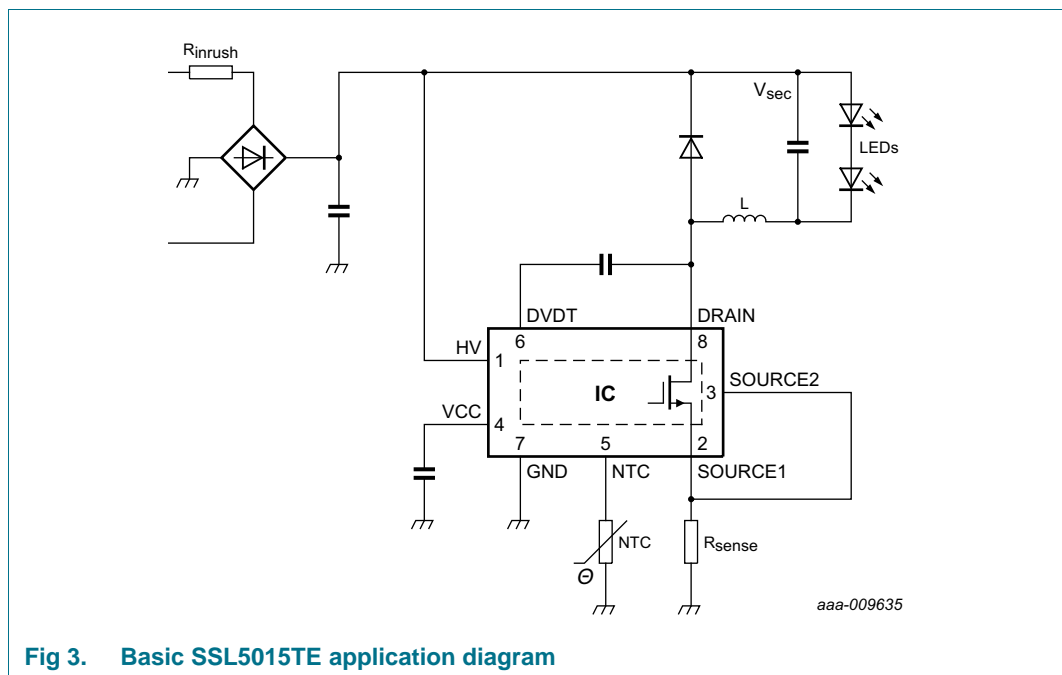
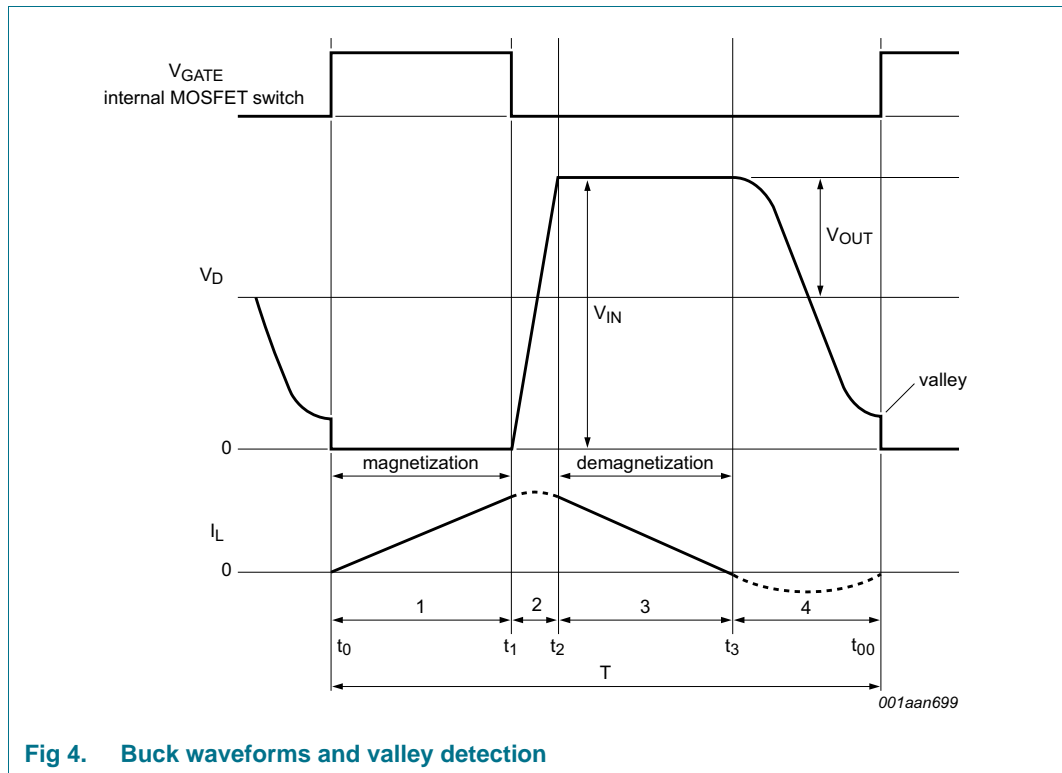

Fig 3. Basic SSL5015TE application diagram
Fig 4. Buck waveforms and valley detection
- Low BOM LED driver solution (see Figure 3):
The converter in the SSL5015TE is a BCM, peak current controlled system. Figure 3 shows the basic application diagram. Figure 4 shows the waveforms. This converter operates at the boundary between continuous and discontinuous modes. Energy is stored in inductor L when the MOSFET is switched on. The inductor current I_L is zero when the internal MOSFET is switched on at t_0 . Thereafter, the amplitude of the current builds up in L proportionally with $V_{IN} - V_{OUT}$ and the time that the internal MOSFET is on (t_0 to t_1). The peak current sensed at the SOURCE2 pin determines when the MOSFET is switched off. When the internal MOSFET switches off at t_1 , the current flows through the freewheeling diode and the output capacitor (t_2 to t_3). The current then drops at a rate proportional to the value of V_{OUT} . When the inductor current reaches zero, after a short delay (t_3 to t_{00}), a new switching cycle is started when the MOSFET is switched on again.